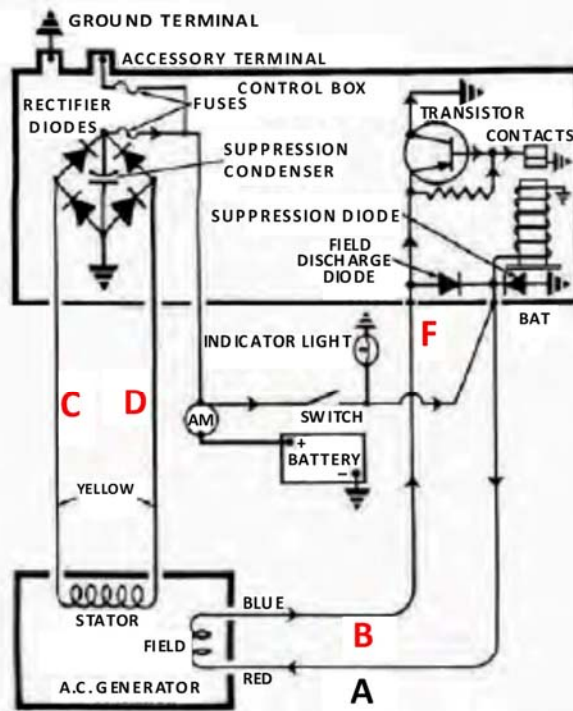

Figure 30
- A. If the lead from the field winding to the "F" terminal of the regulator (marked "B" in the wiring diagram Fig. 30) should become grounded. Battery will be charged excessively.
- C. A short circuit between leads from the stator winding to the rectifier (wires marked "C" and "D", Fig. 30) or from these becoming ungrounded. Ammeter will show a discharge and an undercharged battery would result.